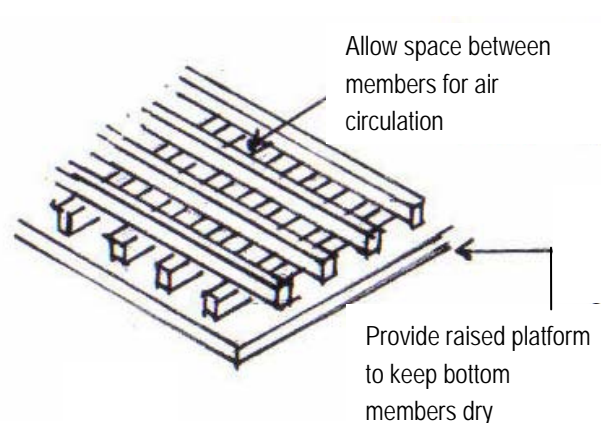

Fig 4 - **Stacking timber**
- Made sure that the timber is stacked off the ground and laid in crisscross layers, allowing space between members for free circulation of air around timber members (See fig. 4)